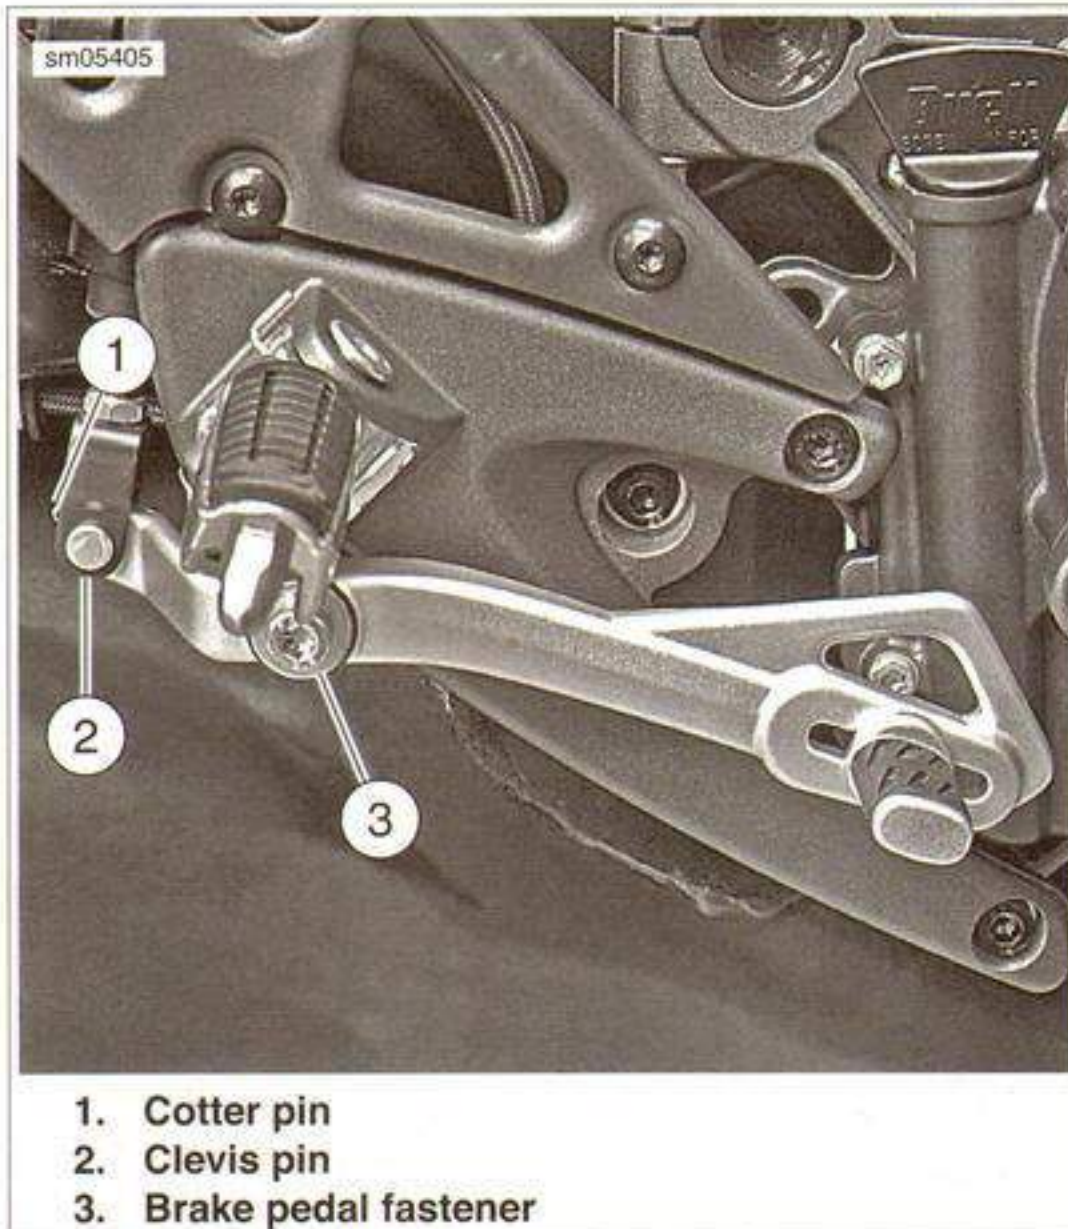

Figure 2-66. Rear Brake Pedal
1. See Figure 2-66. Remove cotter pin (1) and discard.
2. Remove clevis pin (2).
3. Remove pedal fastener (3) and washer to remove the pedal.